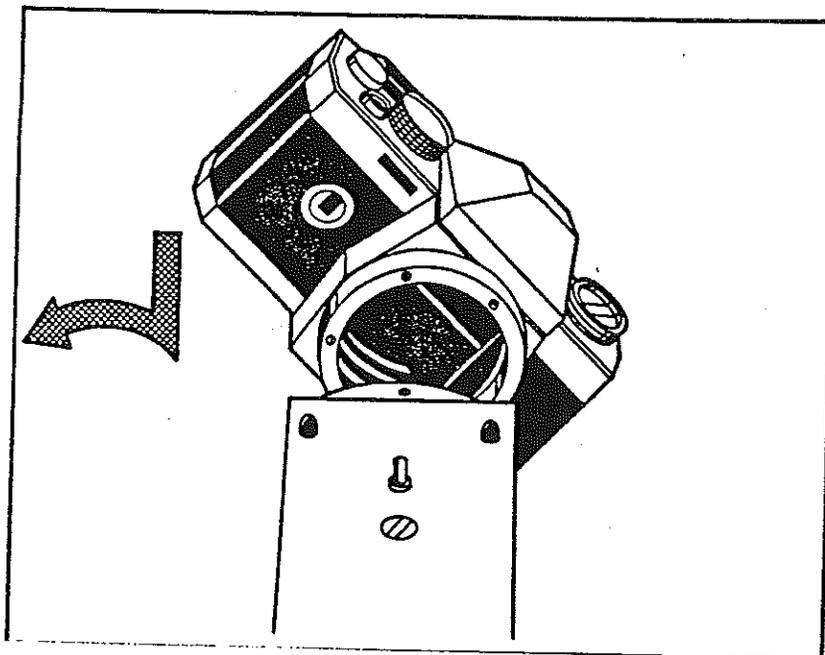

Fig. 33
- (g) Mount the 35 mm SLR camera in place at the rear (Fig. 33). Connect the longer 3 mm coaxial flash lead from the Flash Head to the 35mm camera flash synchronisation socket. Set shutter for Flash. (i.e. 1/60th sec exposure and 'X' synchronisation)